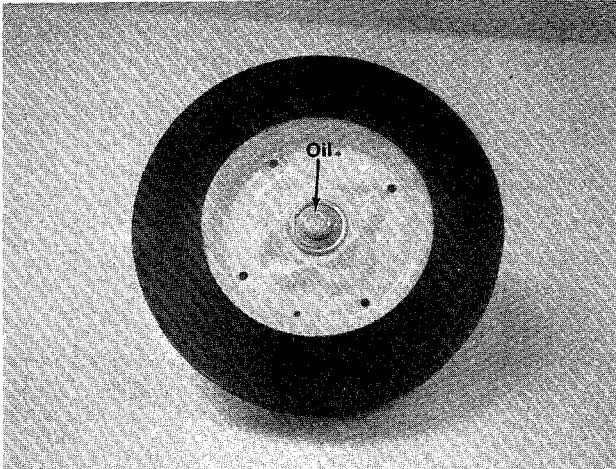

FIGURE 17
**Front Wheels**—Lubricate with a few drops of engine oil once a season. (See figure 17.)